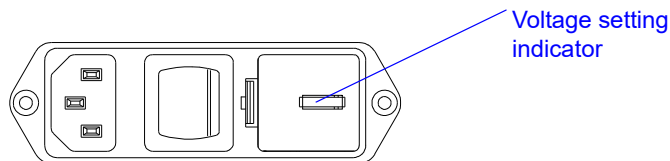

Figure 4-2. Power Input Connector with Voltage Setting
2. Inspect the power input connector. The current voltage setting is visible through a small window in the fuse holder, as shown in Figure 4-2.
1. Ensure that the power switch is in the Off (O) position and disconnect the power cable from the power source. Verify that the **POWER** indicator light on the control panel is not illuminating.
2. Insert a small flat-head screwdriver into the slot indicated in Figure 4-2 on page 4-4 and pry out the fuse holder.